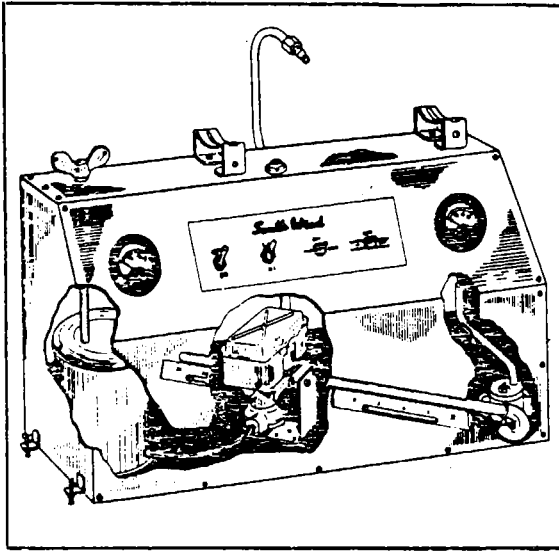

Figure 13-14. Heater Test Stand
b. The test stand (Refer to Figure 13-14.) consists of a cradle for mounting the heater, a fuel tank and an electric fuel pump to supply fuel to the heater. Four switches control operation of the test equipment. A draft gauge measures the fan and blower output.